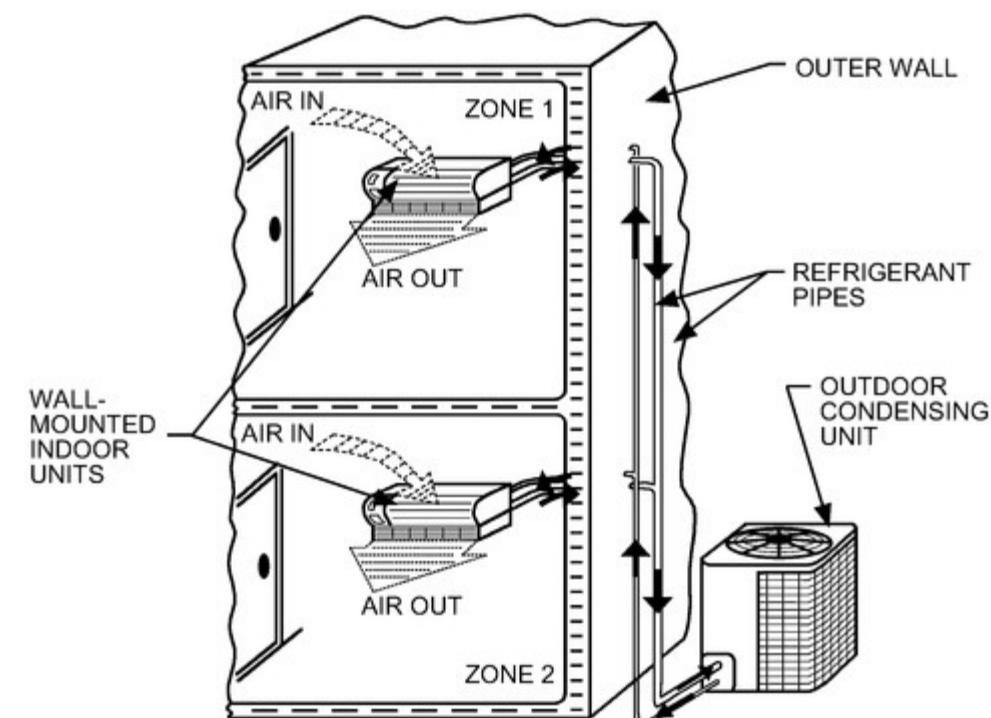

Figure 3. Example of Two-Zone Ductless Multisplit System in Typical Residential Installation
- **Multisplit**, which consists of several controlled spaces, each served by a separate indoor unit. All indoor units are connected to an outdoor condensing unit (Figure 3). When each indoor unit varies its refrigerant flow in response to heating or cooling load demand, the system is called **variable refrigerant flow (VRF)**.